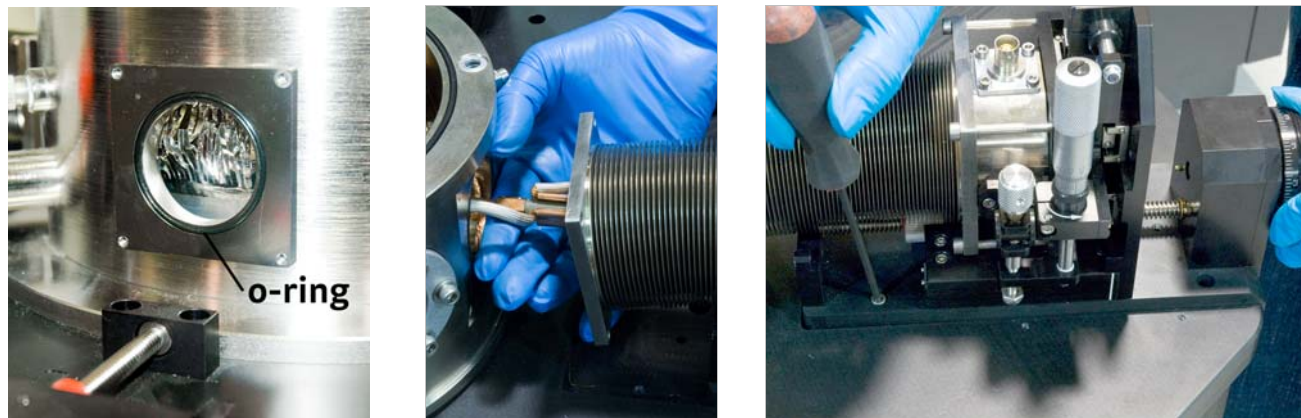

FIGURE 5-2 *Left: Prepare the o-ring and groove; Middle: Guide the cable and probe arm through the arm port; Right: Secure the stage to the table*
6. Clean the o-ring groove in the probe arm port (FIGURE 5-2). Clean, inspect and lightly grease the o-ring with vacuum grease and place it in the groove.
7. Slide the stage onto the probe arm location, and carefully guide the cable and probe arm through the arm port (FIGURE 5-2). Take care that the cable and probe arm enter the radiation shield. The probe mount braids go between the chamber and radiation shield.
8. Using the 3 mm hex driver, secure the stage to the baseplate with the four M4 screws (FIGURE 5-2).